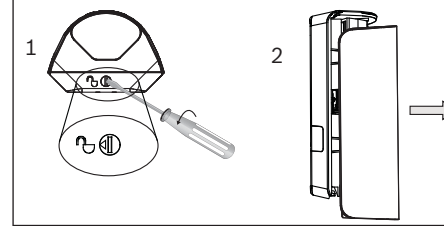

Figure 4.1: Unlock and open detector
1. Turn the rotary lock at the bottom of the detector to the open position. The body slides down. Refer to *Figure 4.1*.